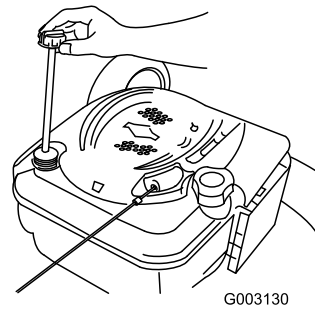

Figure 37
2. Remove the dipstick (Figure 37).